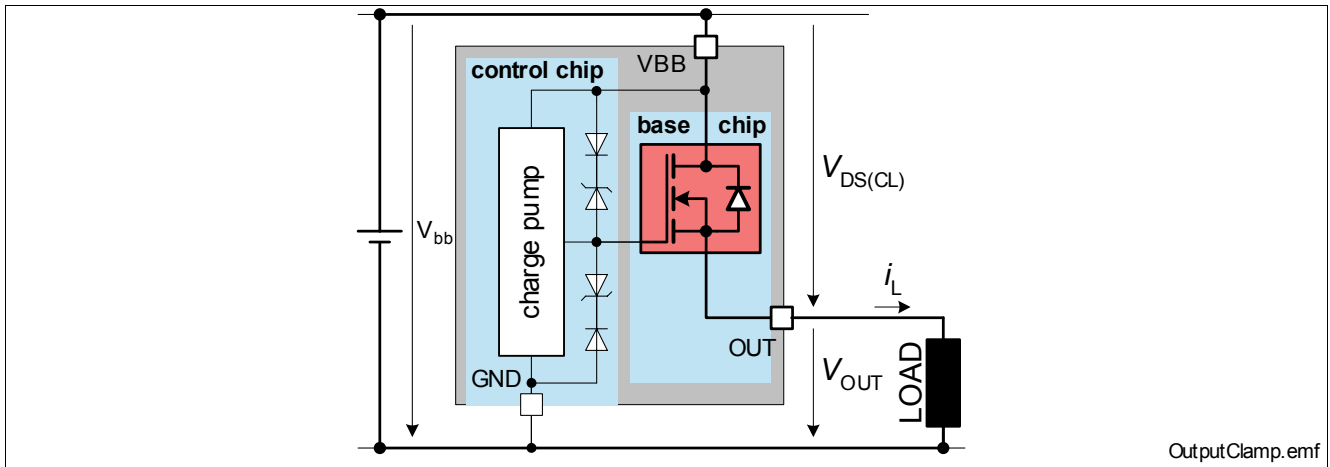
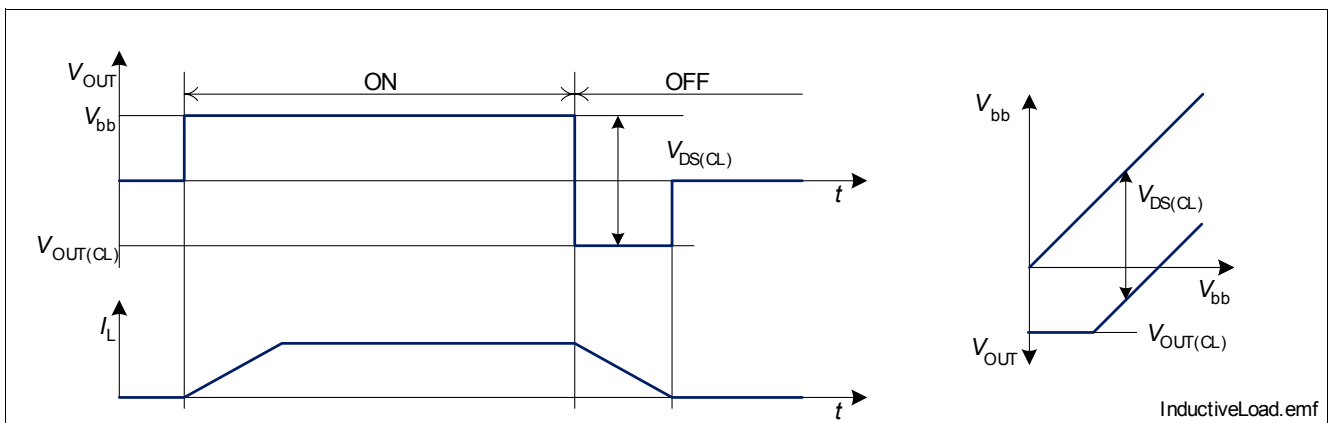

Figure 9 Output Clamp
Figure 10 Switching an Inductance
The power stage is designed for high side configuration (**Figure 9**).
To prevent destruction of the device, there is a voltage clamp mechanism implemented that keeps the voltage drop across the device at a certain level. At nominal battery voltage the output is clamped to  $V_{OUT(CL)}$ . At over voltages the output is clamped to  $V_{DS(CL)}$ . See Figure 9 and Figure 10 for details. The maximum allowed load inductance is limited.
- 5) See Figure 10.